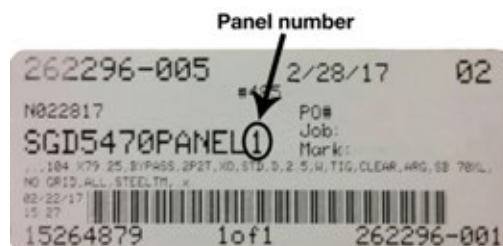

Figure 16
3. Locate the shipping label on all panels and identify the panel number (Figure 16).